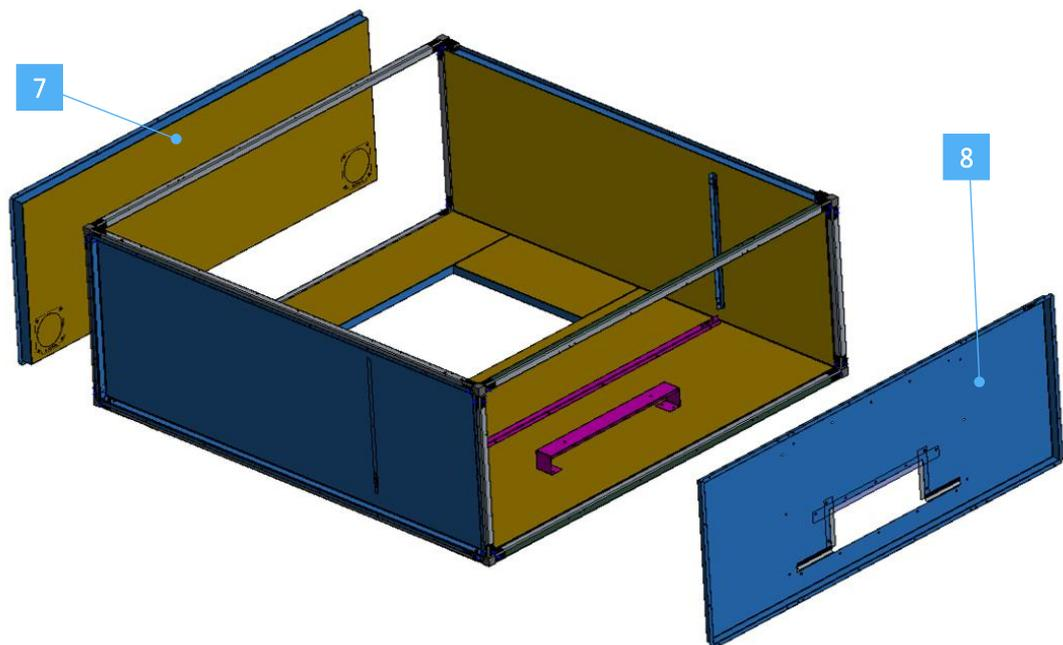

Fig. 7 *Rear and front panels assembly.*
- 4 Insert the rear panel [7] (PN 73-00056-01) and the front panel [8] (PN 73-00065-01) inside the tubes as shown in figure 7 and fix them using the supplied M4 self-tapping screws.